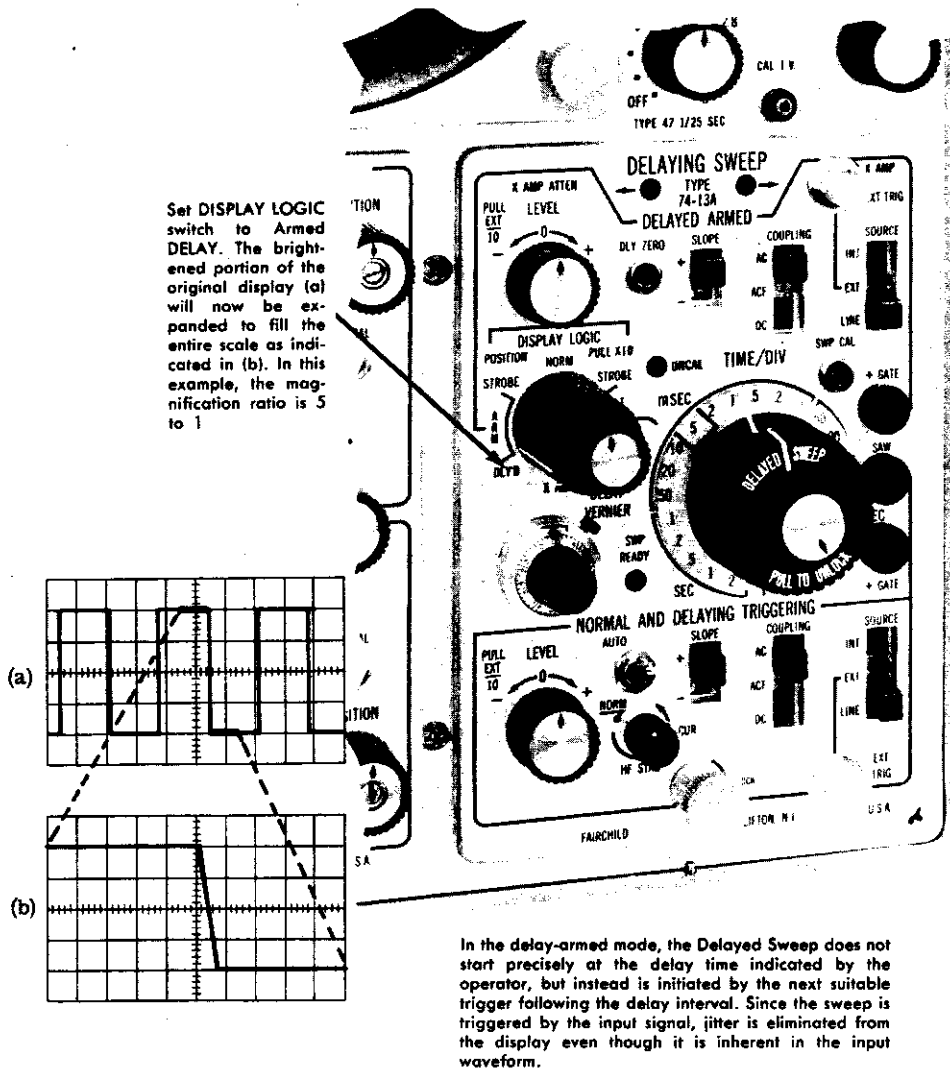

Figure 2-4b. Type 74-13A Armed Delayed Display
- Figure 2-4b Type 74-13A, Armed Delayed Display